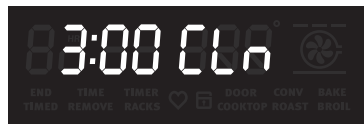

Fig. 65 3 Hour normal clean
2. Press **fresh clean** once for a 3-hour clean (Figure 65), twice for a 4-hour clean (Figure 66) or 3 times for a 2-hour clean (Figure 67).